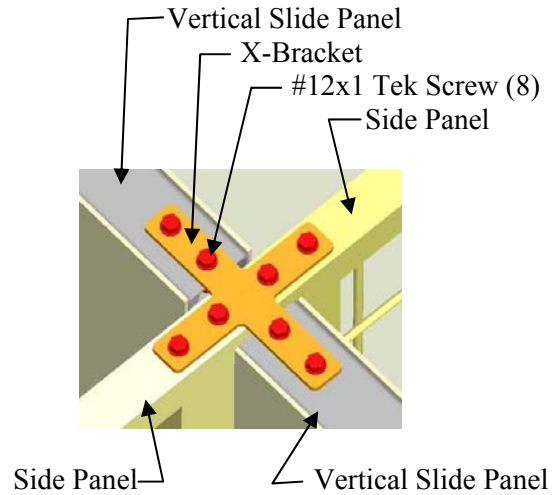

Figure 26 (On the Top)
2. Attach X-Bracket by placing it on the top of both joining Side Panels and both Vertical Slide Panels using 1" self-drilling Tek Screws as shown in (**Figure 26**).